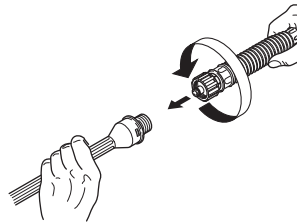

Figure 5
3. Connect wand to gun. Tighten securely. See figure 5.